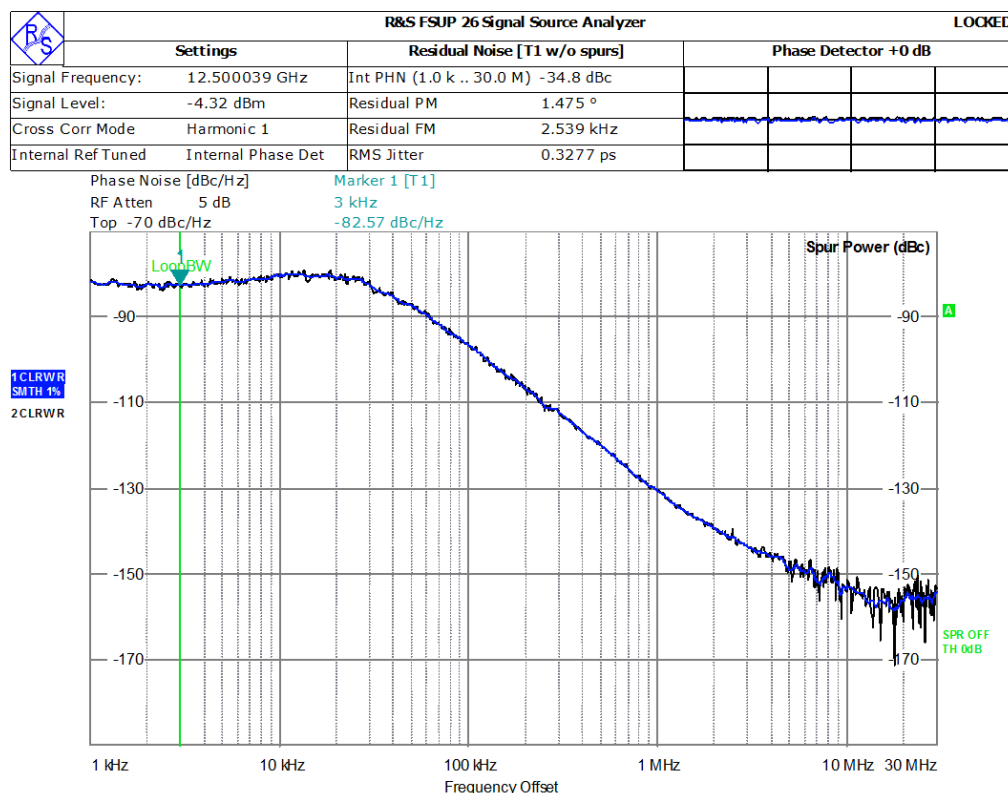
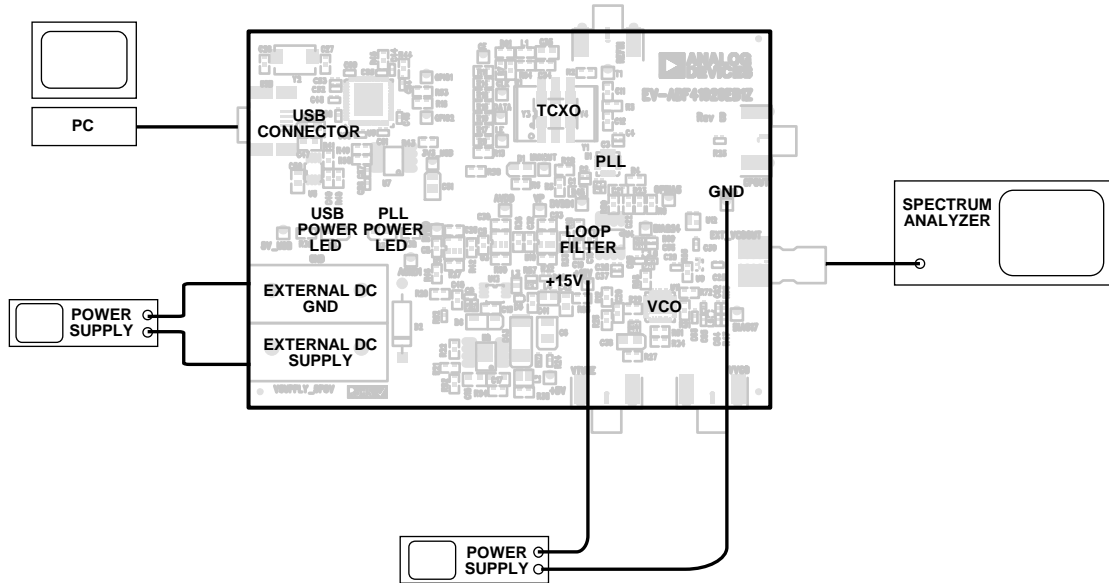

Figure 6. Spectrum Analyzer Display
Figure 7. Typical Evaluation Setup
8. Select the USB board and the ADF41020 device in the **Select Device and Connection** tab of the software front panel window. On the Main Controls tab, set the VCO center frequency (Figure 6 uses a 12.5 GHz VCO). Set the PFD frequency as specified in ADIsimPLL, and program the reference frequency to 100 MHz. See Figure 7 for the suggested setup.
9. Measure the output spectrum. Figure 6 shows a 12.5 GHz output.